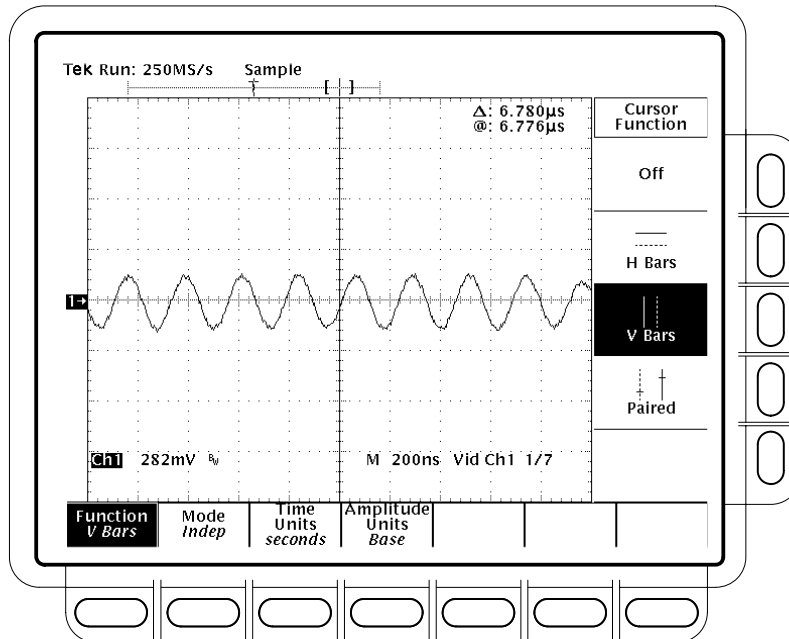

Figure 1-37: Line count accuracy correct result waveform
- Verify that the cursor is positioned on a positive slope of the burst signal. See Figure 1-37.